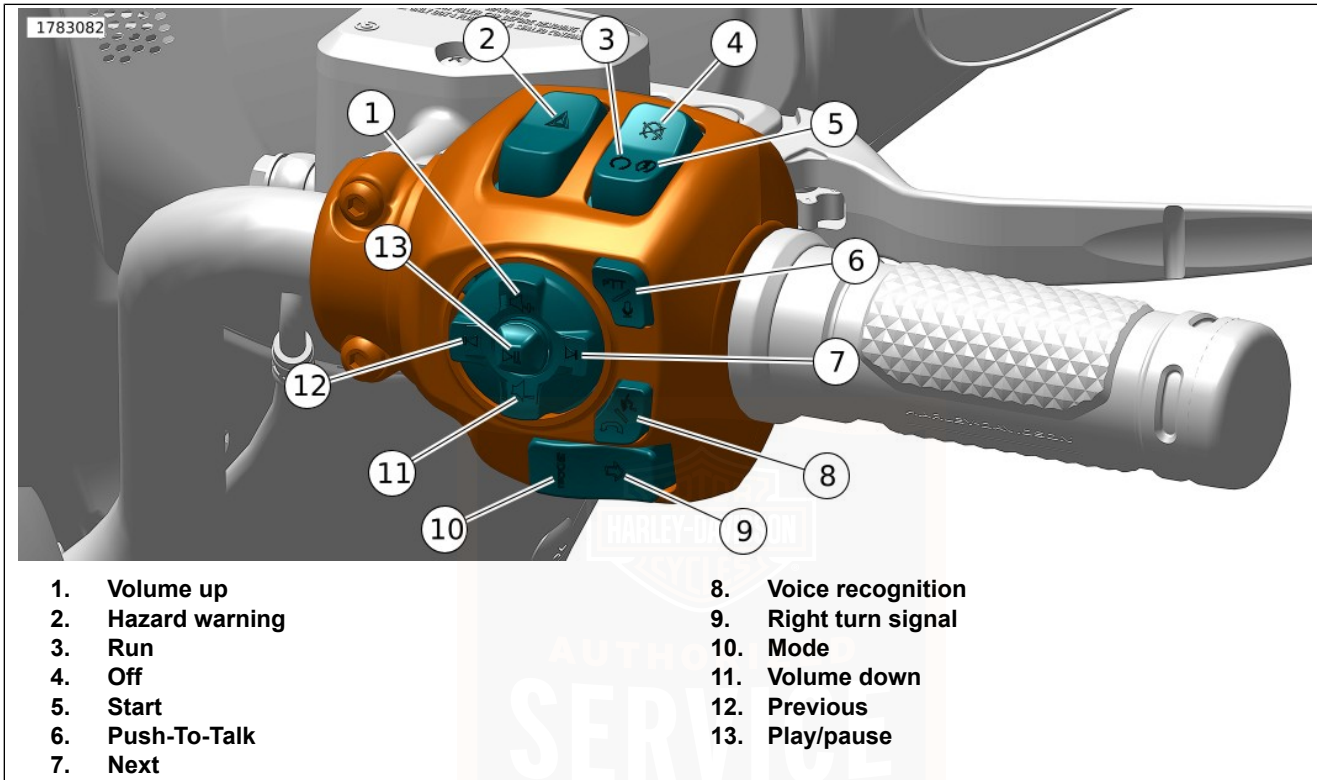

Figure 33. Right Hand Control Module (RHCM)
See Figure 33. The hazard warning switch (2) is used to leave a stranded motorcycle in the 4-way flashing mode. With the flashers, the motorcycle can be left with the ignition off until assistance is found. Refer to Table 28.
1. With the OFF/RUN/START switch in the RUN (3) position, press the hazard warning switch to activate the 4-way flashers.
See Figure 33. Press the engine OFF/RUN/START switch to OFF (4) to shut off the engine. Refer to Table 28.
See Figure 33. Push the engine OFF/RUN/START switch to RUN (3) to enable engine start and run. The engine OFF/RUN/START switch must be in the RUN position to start or operate the engine. Refer to Table 28.
See Figure 33. Press the right turn signal switch (9) to activate the right turn signal. Refer to Table 28.
See Figure 33. Press the volume up (1) button to increase volume. Refer to Table 28.
See Figure 33. Press the next button (7) to select the next media file. Refer to Table 28.
See Figure 33. Press the volume down (11) button to decrease volume. Refer to Table 28.
See Figure 33. Press the previous button (12) to select the previous media file. Refer to Table 28.
See Figure 33. Press the play/pause button (13) to play or pause the current media file. Refer to Table 28.
See Figure 33. The Push-To-Talk (PTT) switch (6) is used to operate the rider/passenger intercom on equipped vehicles. Refer to Table 28.
1. See Figure 33. Switch the OFF/RUN/START switch to RUN (3). Shift the transmission to neutral. The neutral (green) indicator illuminates. See OPERATION > STARTING THE ENGINE (Page 118).
2. Press the OFF/RUN/START switch to START (5) to operate the starter motor. Refer to Table 28.
See Figure 33. The voice recognition switch (8) activates the voice recognition features on a connected mobile device. Refer to Table 28.
See Figure 33. Press the mode button (10) to change the ride mode. See OPERATION > RIDE MODES (Page 109). Refer to Table 28.
See Figure 33. Use the Right Hand Control Module (RHCM) buttons to navigate volume up (1), volume down (11), next (7), previous (12), play/pause (13) on the RHCM to adjust audio media settings. See OWNER MANUAL > INFOTAINMENT CONTROL UNIT (IFCU) OPERATION (Page 139).